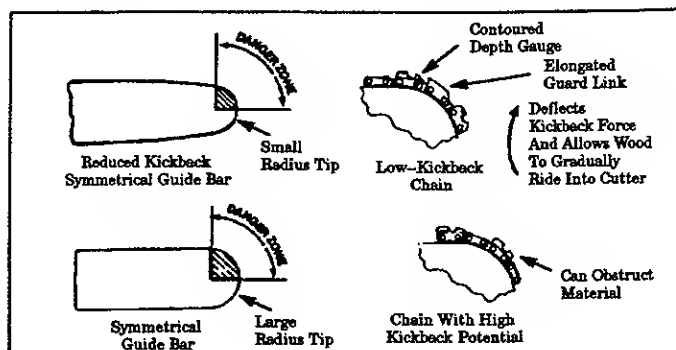

Figure 5
- **Reduced-Kickback Guide Bar**, designed with a small radius tip which reduces the size of the kickback danger zone on the bar tip. Figure 5. A Reduced-Kickback Guide Bar is one which has been demonstrated to significantly reduce the number and seriousness of kickbacks when tested in accordance with the safety requirements for gasoline powered chain saws as set by the American National Standards Institute, Inc., Standard B175.1.
- **Low-Kickback Chain**, designed with a contoured depth gauge and guard link which deflect kickback force and allow wood to gradually ride into the cutter. Figure 5. Low-Kickback Chain is chain which has met kickback performance requirements of ANSI B175.1 (Safety Requirements for Gasoline-Powered Chain Saws) when tested on a representative sample of chain saws below 3.8 cubic inch displacement specified in ANSI B175.1.